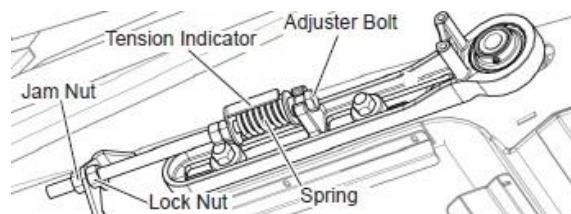

Figure 58
2. Locate the two tensioners on each side of the center draper on the underside of the header. Figure 58